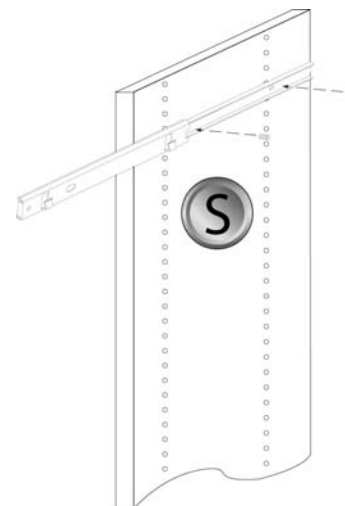
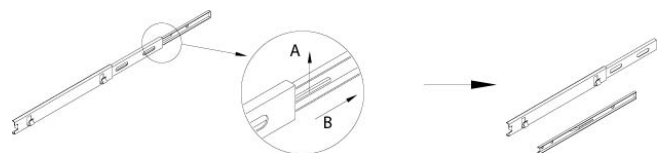

Fig. 2
Fig. 3
1. **S** To install Standard Extension slides, attach the top basket's slide in the 3rd hole down from the fixed shelf using two (2) Euro screws in each slide (assuming the top fixed shelf is mounted at 42"). (See Fig. 2.)
2. **F** To install Full Extension slides, first pull black plastic fitting up (Fig. 3 "A") to release inner slide from extension slides. Second, remove inner slide (Fig. 3 "B") and attach it to the partition as in step 6. (See Fig. 2 or 4.)